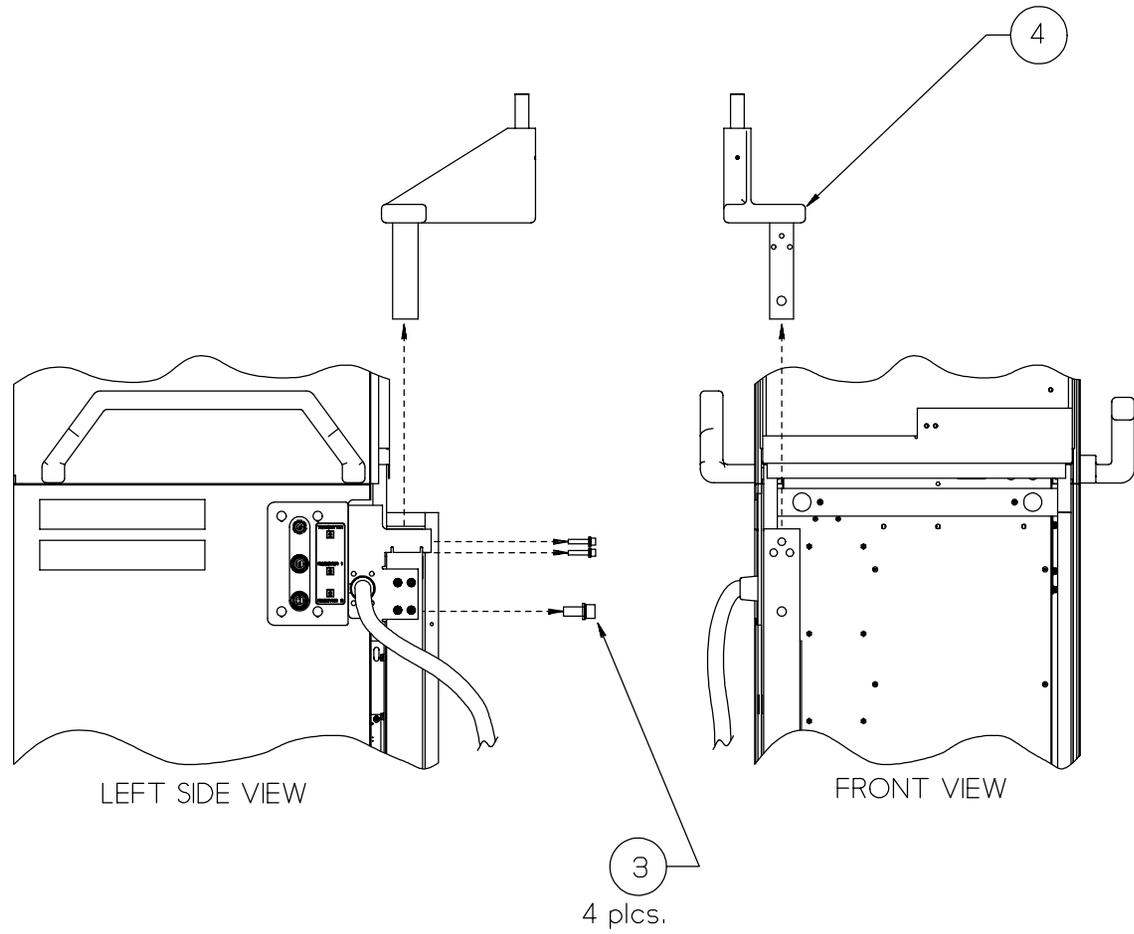

Figure 12
3. Remove the four hex screws (& their washers) from the front side of the Workstation frame's front-left support post. See Figure 12.
4. Lift up the A-Arm Support, slide its mtg. block out of the front-left support post and remove the A-Arm Support from the Workstation. See Figure 12.